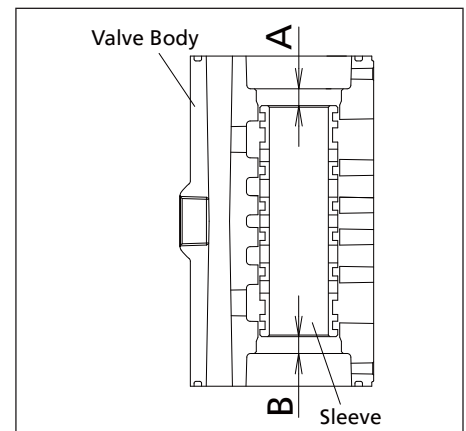

Figure 34
- Install the sleeve at the center of the valve body (A-B). (See Figure 34)